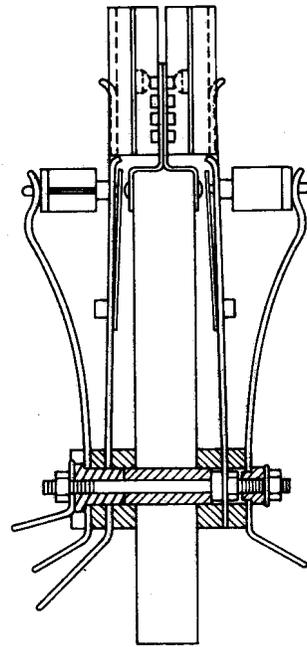

Fig. 3—4A and 4C Protectors—10-Type Protector Mounting
2.03 Other protector mountings similar to the C-type are shown in Fig. 3, 4, 5, and 6.